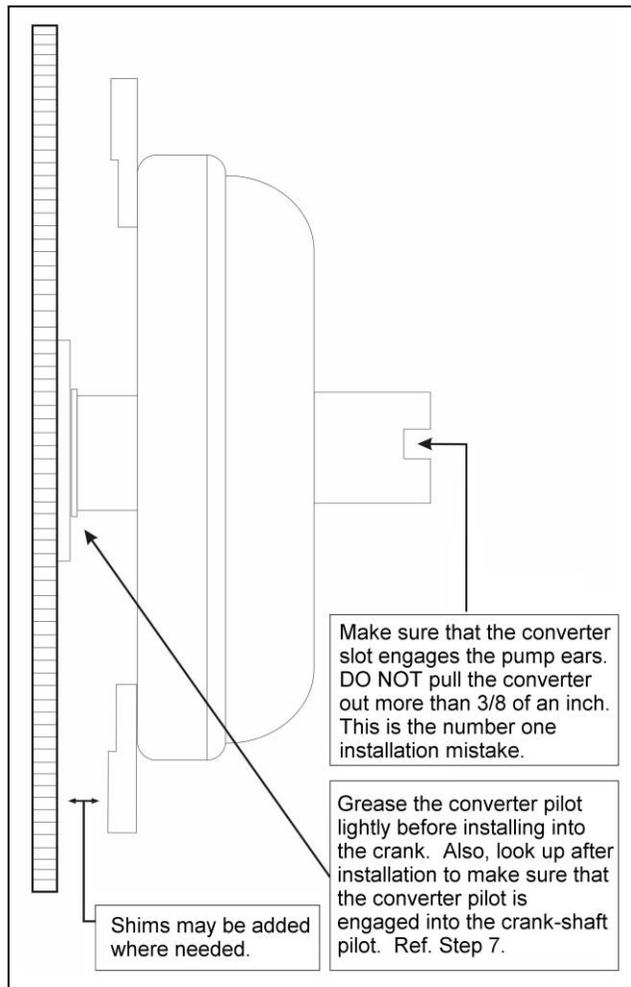

Figure 1
7. After the transmission housing bolts are tight, check to see if the converter can turn freely (except Ford applications with studs). Push the converter into the transmission as far as possible. Using a ruler or scale, check the distance between the converter pad and the flywheel as shown in **Figure 1**. Pull converter forward a minimum of 1/8 of an inch, maximum 3/16 of an inch. Using flat washers, remove any additional space between the converter and the flywheel. NOTE: In case of Ford applications with studs, measure from end of stud to flywheel. Tighten converter nuts and measure again. The difference should be within the tolerance.